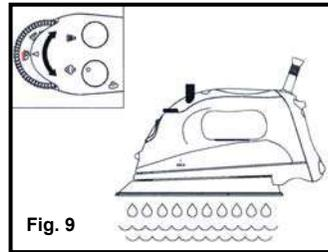

Fig. 9
5. Turn the variable steam control dial all the way to the right to the self-cleaning position and hold the iron horizontally over the sink. (Fig. 9)